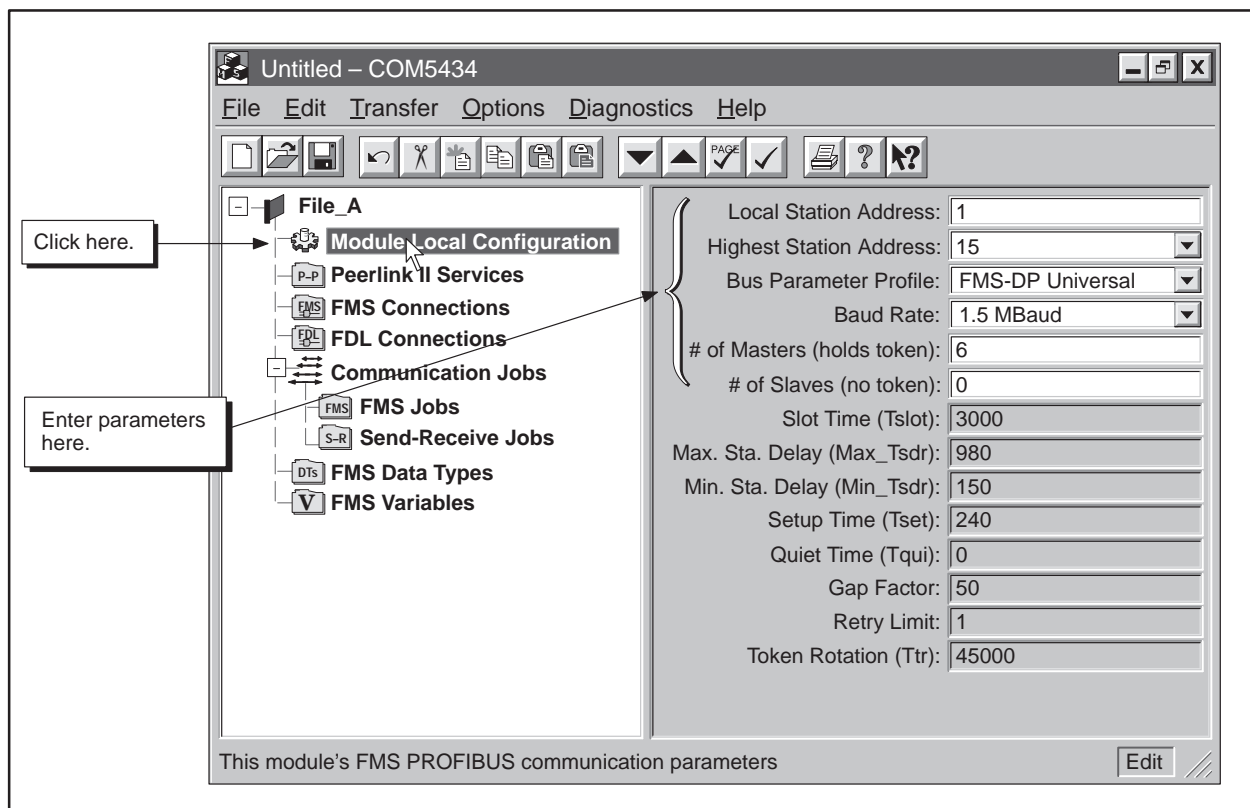

Figure 6-13 Module Local Configuration Example
2. Complete the fields listed below (and shown in Figure 6-13) to define the Module Local Configuration: